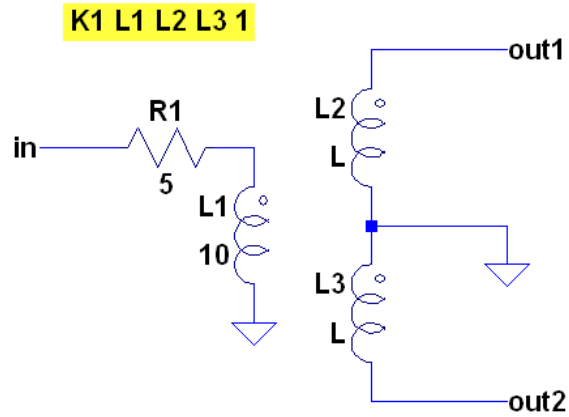

Figure 1.26: Center-tapped transformer in LTSPICE.
- Figure 1.26 shows a center-tapped transformer implementation in LTSPICE. Inductor component used for this circuit is `ind2`, which is found among the predefined components in LTSPICE. There are three inductors: L1 corresponding to the primary coil, and L2 and L3 corresponding to the secondary coil. Note SPICE directive `K1 L1 L2 L3 1` which defines *mutual* inductance with coupling coefficient  $K1=1$ . It means that all three coils fully induce each other (an analog to them being wound on an iron core with a very high permeability). The relationship between the voltages for a pair of coils with a coupling coefficient of 1 is  $|V_1/V_2| = \sqrt{L_1/L_2}$ . L1 is specified to be 10H.  $5\Omega$  in series with L1 represents the primary coil resistance (you can also specify this and other parameters by right-clicking on the inductors). Build a full-wave rectifier using this center-tapped